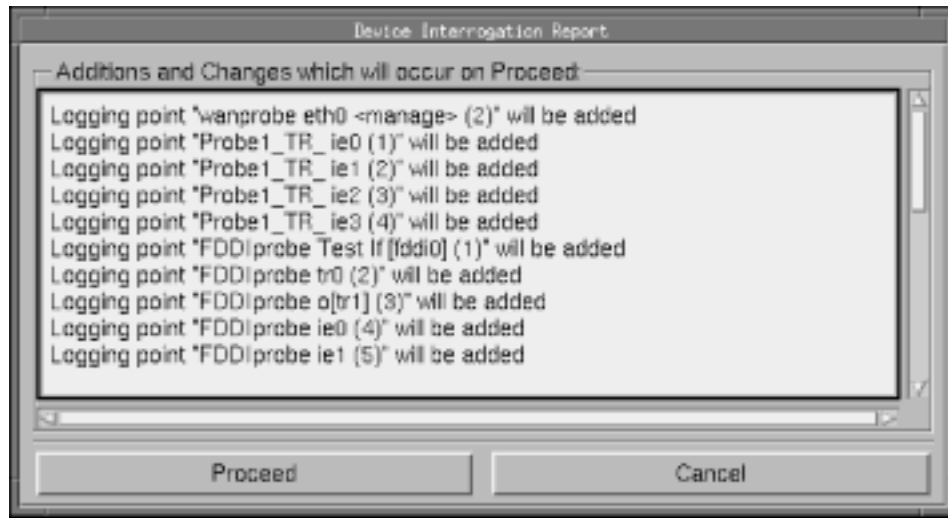

Figure 65. Device Interrogation Progress Dialog Box
3. Click **Update Points...** to display the Device Interrogation Progress dialog box (See Figure 65).